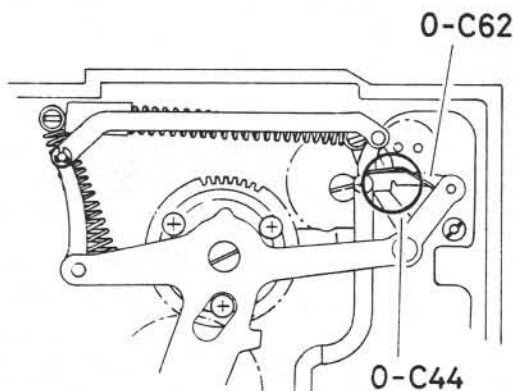

Fig. 1
* Make sure that the Wind mech block is released . In other wards, the Charge lever assy. (0-C44) is not latched by the Release lever assy. (0-C62) as shown in Fig. 1.